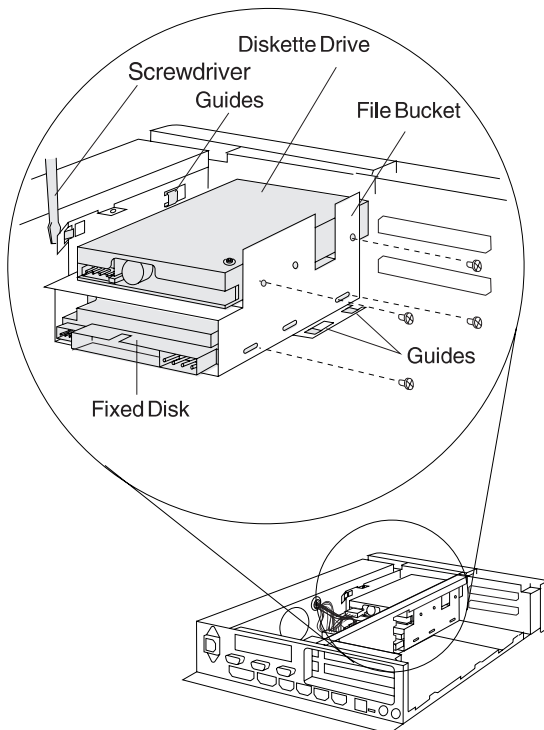

Figure 2-2. Diskette and Fixed Disk Drive
- 4 Release the locking catch on the file bucket by using a flat blade screwdriver as shown in Figure 2-2. At the same time, slide the file bucket to the rear until the bucket clears the guides.